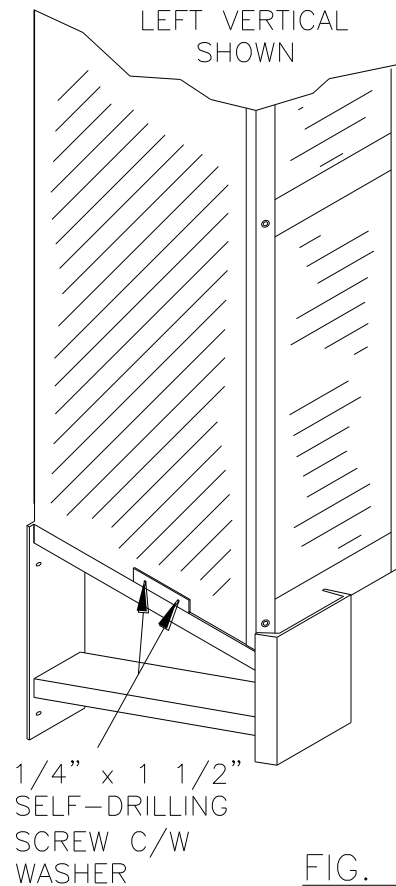

FIG. 8
- a. **Position Vertical Frame** (Figure 8).